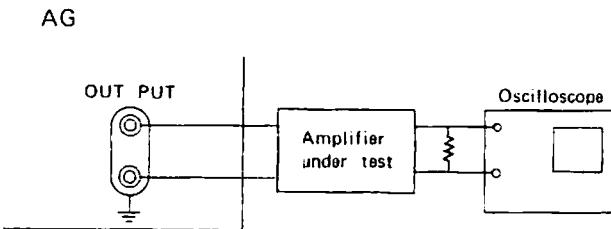

Fig. 7
- 1) Connect AG an amplifier to be tested and an oscilloscope as shown in Fig. 7.
- 2) Press WAVE FORM ⑦ to the "□" position to obtain square waves of appropriate frequency and amplitude.